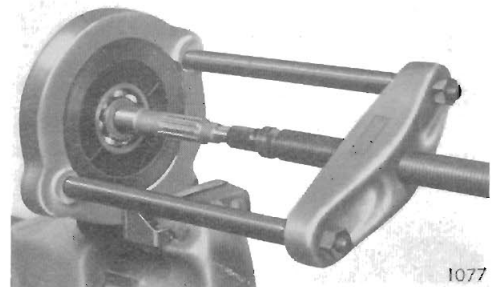

Fig. 19.
Tilt the mainshaft assembly (Fig. 19) and extract the synchro unit (92), (95) and the synchro cups (96) and (98).